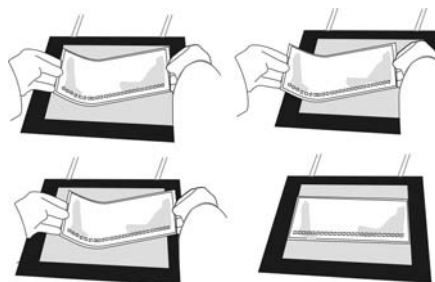

Fig. 3.2
4. Remove the gel from its packaging. Remove the cover-film. Grip the gel (surface-up) at the two lateral edges at the protruding film, bend it like an “U” and slide the film-backing left and right on the cooling plate to distribute the cool contact fluid evenly (Fig. 3.2). Lay the gel down on the cooling plate being careful to ensure no air is trapped behind the gel. Remove excess cooling fluid along film edges with lint-free tissue paper.